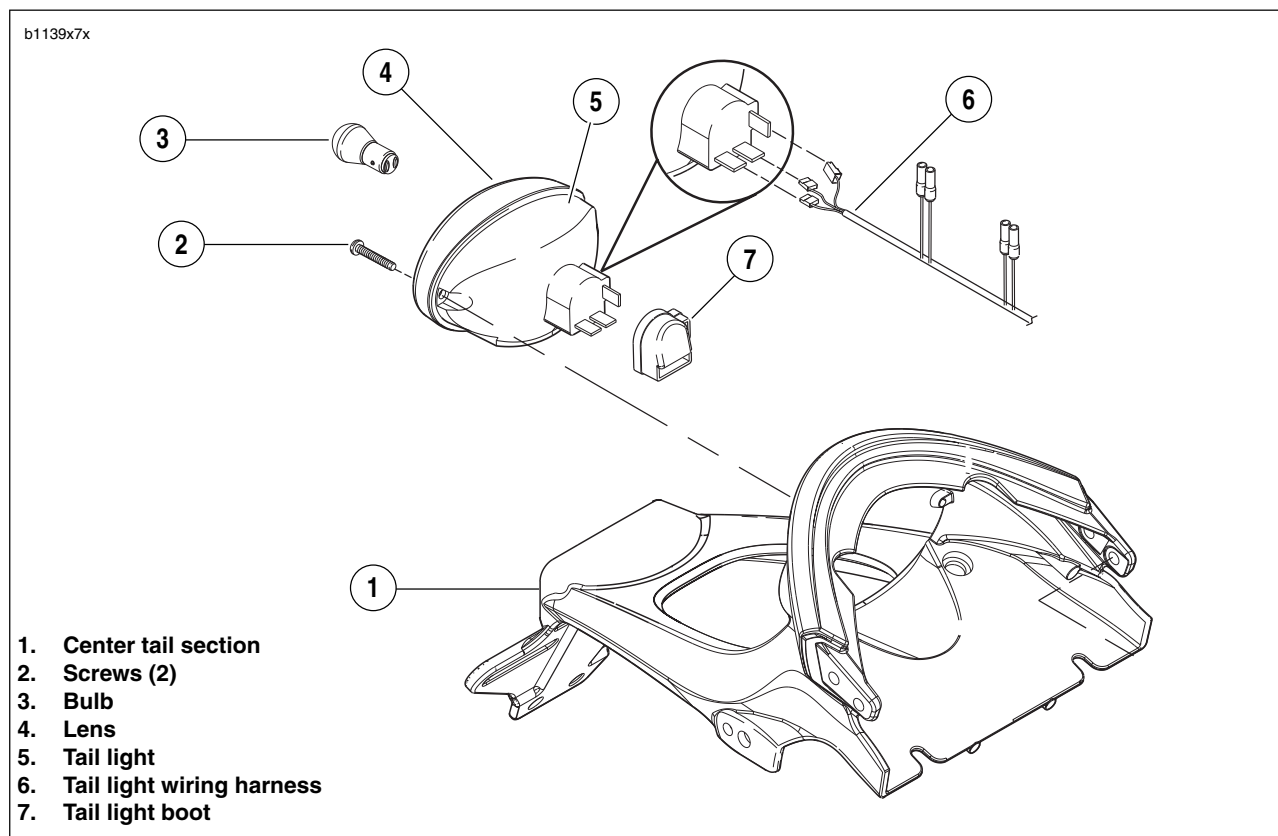

Figure 7-49. Tail Lamp Assembly
1. See Figure 7-49. Remove two screws (2) to detach tail light lens (4) and tail light (5). If replacing bulb (3), turn counterclockwise and remove.
3. Disconnect three connectors [93] (6) from tail lamp harness (7).
1. See Figure 7-49. Attach the three tail light harness connectors [93] (7).
2. If removed, install tail lamp bulb (3).
- b. Install tail light lens (4) and tail light (5) with two fasteners (2).